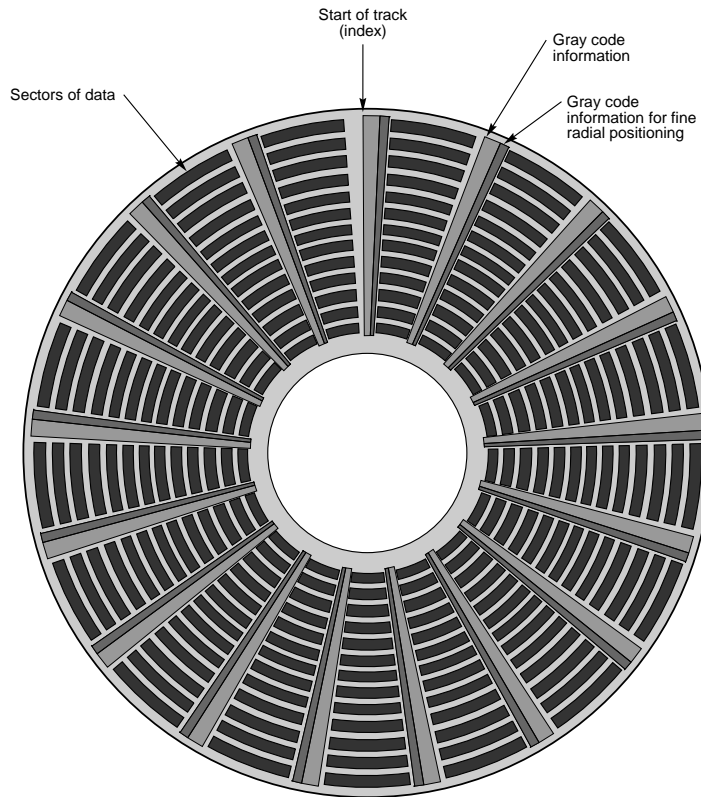

FIG. 14.7 An embedded servo.
**Embedded Servo.** An *embedded servo* (see Figure 14.7) is an enhancement of the wedge servo. Instead of placing the servo code before the beginning of each cylinder, an embedded servo design writes the servo information before the start of each sector. This arrangement enables the positioner circuits to receive feedback many times in a single revolution, making the head positioning much faster and more precise. Another advantage is that every track on the drive has this positioning information, so each head can quickly and efficiently adjust position to compensate for any changes in the platter or head dimensions, especially for changes due to thermal expansion or physical stress.